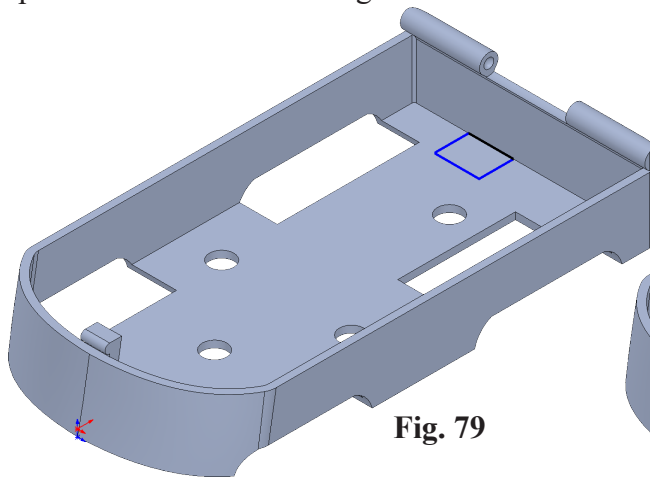

Fig. 79
Step 4. Sketch corner rectangle coincident with rear inside edge of body, Fig. 79.